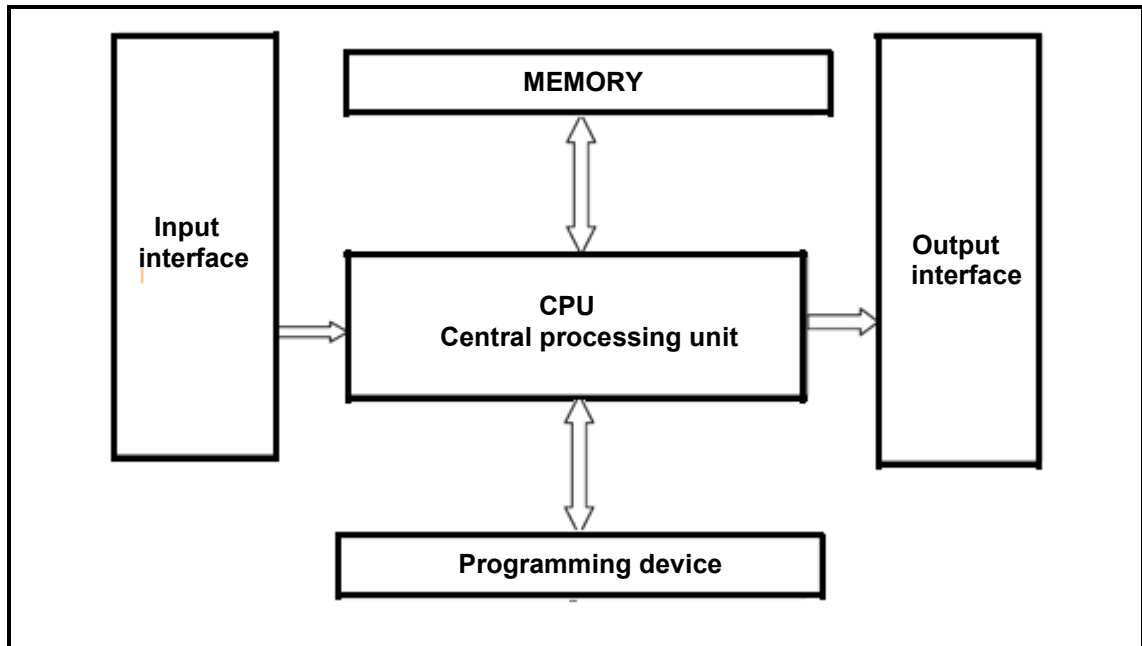

FIGURE 6.1: PLC SYSTEM
6.2 FIGURE 6.1 below shows a typical PLC system.